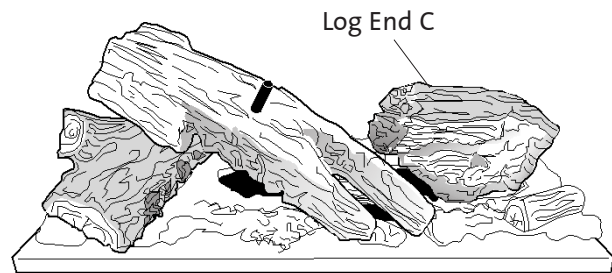

Figure 41. Position Log C to the right.
4. Position the short, flat side of Log End C within the shallow pocket at the right side of the Base. See Fig. 41.